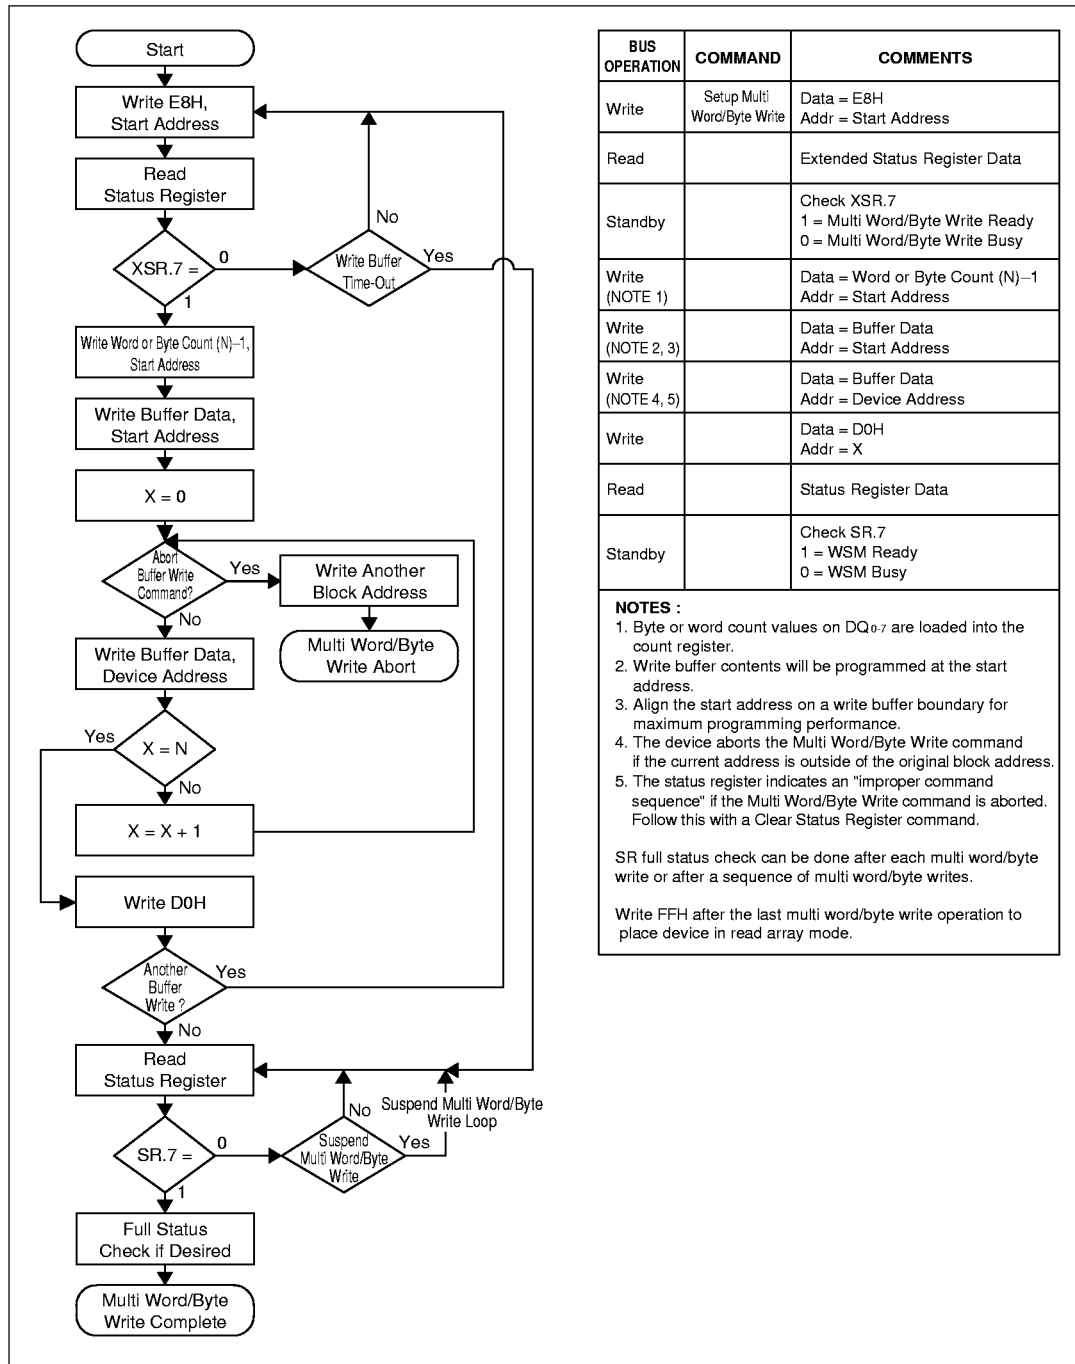
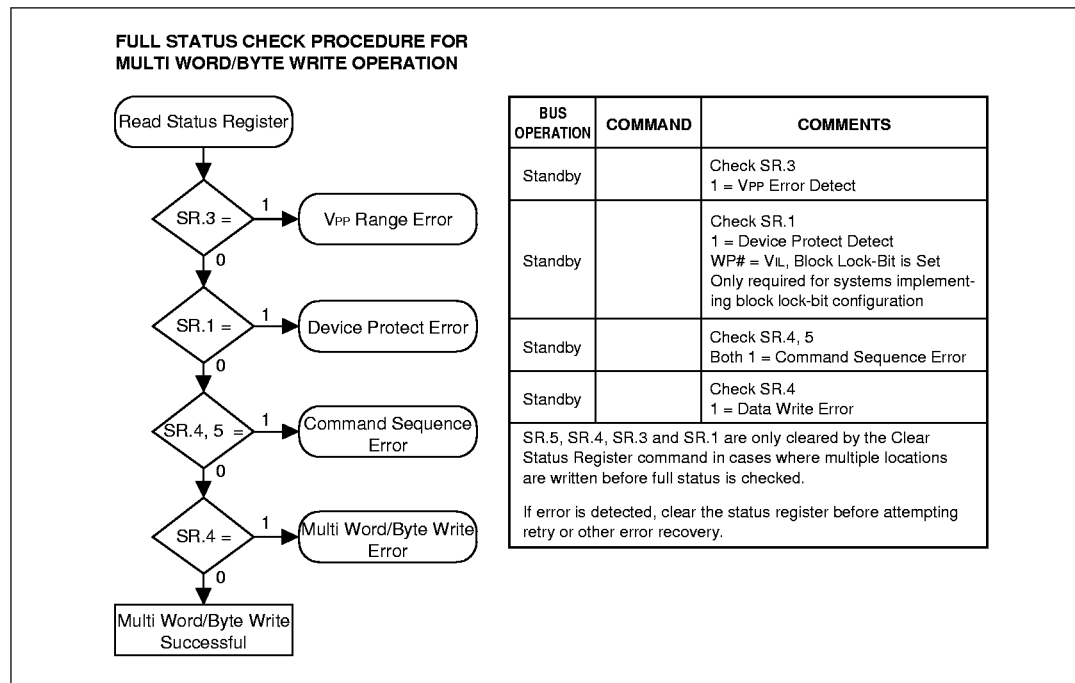

Fig. 6 Automated Multi Word/Byte Write Flowchart
Fig. 7 Full Status Check Procedure for Automated Multi Word/Byte Write
device automatically outputs extended status register data (XSR) when read (see Fig. 6 and Fig. 7). If extended status register bit XSR.7 is 0, no Multi Word/Byte Write command is available and multi word/byte write setup which just has been written is ignored. To retry, continue monitoring XSR.7 by writing multi word/byte write setup with write address until XSR.7 transitions to "1". When XSR.7 transitions to "1", the device is ready for loading the data to the buffer. A word/byte count (N)-1 is written with write address. After writing a word/byte count (N)-1, the device automatically turns back to output status register data. The word/byte count (N)-1 must be less than or equal to 1FH in x8 mode (0FH in x16 mode). On the next write, device start address is written with buffer data. Subsequent writes provide additional device address and data, depending on the count. All subsequent address must lie within the start address plus the count. After the final buffer data is written, write confirm (D0H) must be written. This initiates WSM to begin copying the buffer data to the flash array. An invalid Multi Word/Byte Write command sequence will result in both status register bits SR.4 and SR.5 being set to "1". For additional multi word/byte write, write another multi word/byte write setup and check XSR.7. The Multi Word/Byte Write command can be queued while WSM is busy as long as XSR.7 indicates "1", because LH28F160S3-L/S3H-L have two buffers. If an error occurs while writing, the device will stop writing and flush next Multi Word/Byte Write command loaded in Multi Word/Byte Write command. Status register bit SR.4 will be set to "1". No Multi Word/Byte Write command is available if either SR.4 or SR.5 is set to "1". SR.4 and SR.5 should be cleared before issuing Multi Word/Byte Write command. If a Multi Word/Byte Write command is attempted past an erase block boundary, the device will write the data to flash array up to an erase block boundary and then stop writing. Status register bits SR.4 and SR.5 will be set to "1".